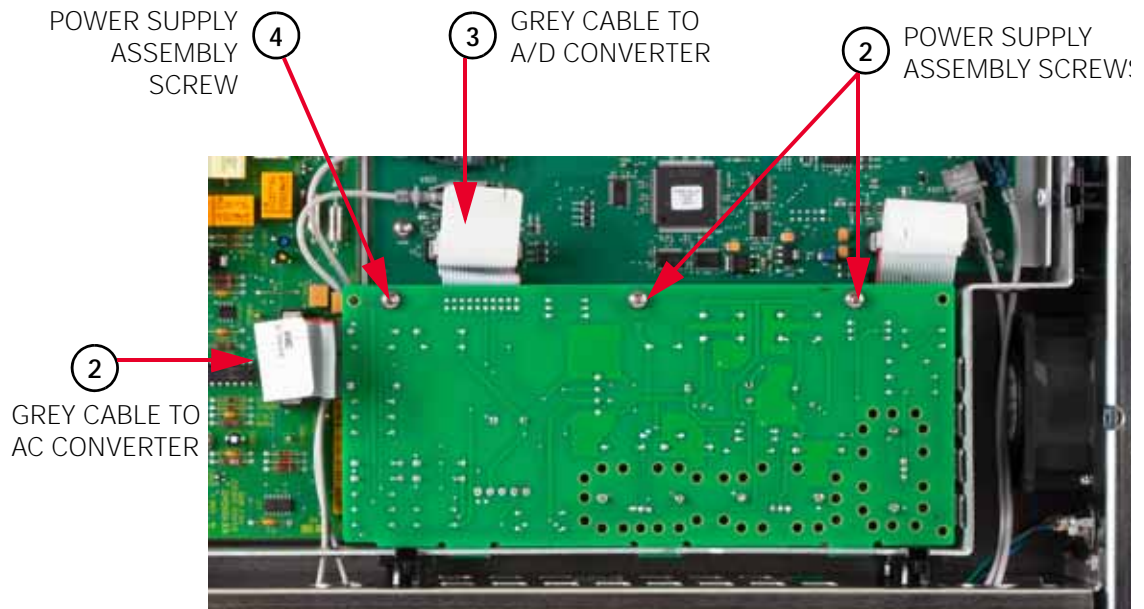

Figure 3-13 Inguard power supply assembly removal/installation
- 4 Refer to Figure 3-13 for the rest of this procedure.
- 2 Refer to Figure 3-13. Line up the Inguard Power Supply assembly with the slots in the chassis. Then push the board in.